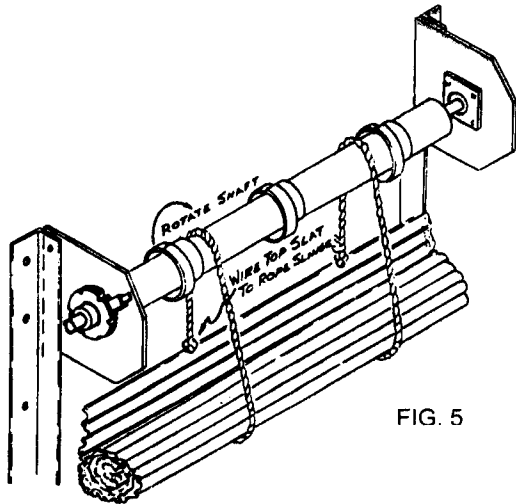

FIG. 5
9. Lift the rolled up curtain 12"-24" below the mounted shaft, attach rope slings of adequate size around the curtain, using square knots only (max. 4' apart - see FIG. 5). Once the slings are in place, drop the lift below, approximately 1" under the rope slings for safety. Pull slat up between the the top slings and the pipe barrel matching the holes with the pipe barrel. Note: Pipe barrel may have tapped holes, tapped tabs or barrel rings Fasten curtain with hardware provided but do not tighten. Center and level the curtain assembly to the pipe barrel and secure and torque all fasteners. Remove lift so that the curtain weight rests on the slings.
It requires two workers for safety. You will need two 1 x 1/4 flat bars, min. 18" long (not provided) to apply tension to the springs. Slide one of the bars into any of the six slots of the charge wheel. Rotate in the direction the door would roll up (charge wheel on left - clockwise, charge wheel on right - counterclockwise) (see Fig. 5 & 6) Slide the second bar in the slot above, hold and remove the lower bar. Repeat the procedure until the curtain starts to coil around the pipe barrel and stop when the bottom bar becomes visible. Line up the charge wheel slots with the channel stop on the charge bracket and slide the stop bar (1" x 1/4" x 6" flat bar) provided, through the slot on the charge wheel.